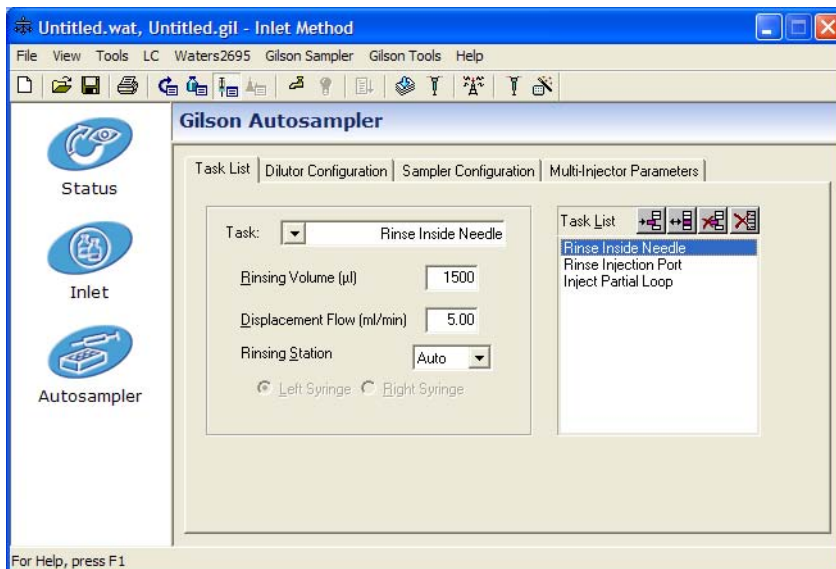

Figure G-12 Autosampler Parameters: Rinse Inside Needle
16. Select Rinse Inside Needle from the Task drop-down list and enter the parameters as shown in Figure G-12.